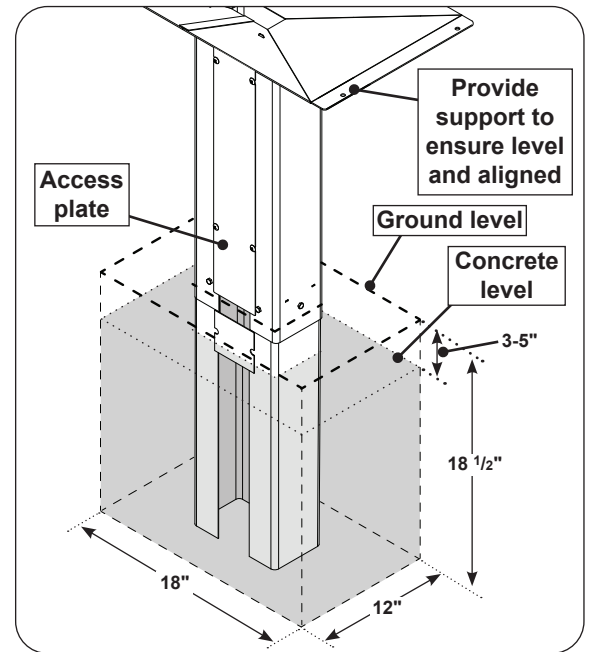
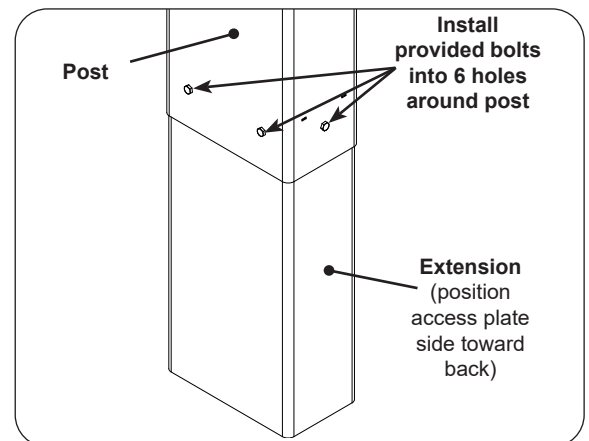
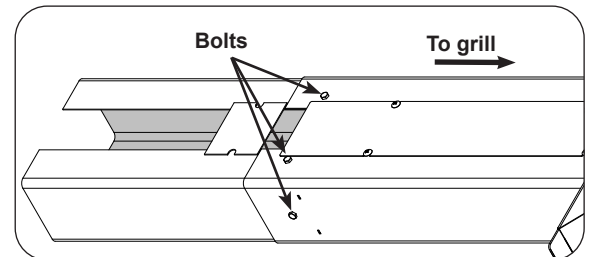

Fig. 28-1 Installation overview
Fig. 28-2 Install extension to post
Fig. 28-3 Fasten extension to post
1. Attach the extension to the bottom of the grill post so that the open portion is facing the same direction as the access plate and the six holes in the extension line up with the six (6) weld-nuts in the post (see Fig. 28-1 and Fig. 28-2).
2. From outside the joined post and extension, insert one of the 1/4" - 20 X 1/2" bolts (supplied) into each of the six (6) bolt holes and tighten each bolt using a 7/16" socket driver or wrench (see Fig. 28-2 and Fig. 28-3).
1. Dig a hole for the post and extension approximately 18" wide, 12" front-to-back, and 18 1/2" deep. See Fig. 28-1.
3. Carefully orient the post into the installation hole and verify proper positioning. See Fig. 28-1.